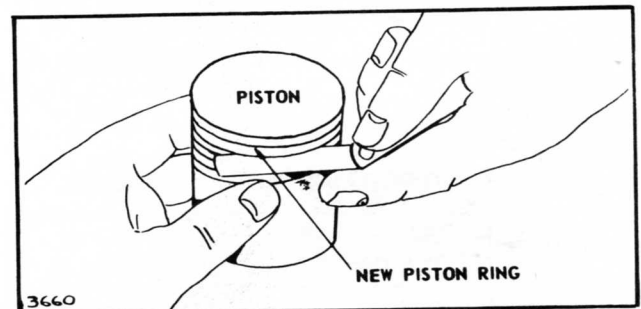

FIGURE 7-4
3. Check the space between the ring and the groove. (See figure 7-4.) If the space in the groove is .007" (0.18 mm), replace the piston.